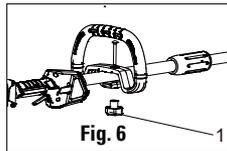

Fig. 6
The assist handle mounting bracket can be slid up or down, rotated from side to side or forward or backward to place the assist handle in the most comfortable position. Turn locking knob (1) (Fig.6) before adjusting the assist handle position and retighten it to lock the assist handle in the new position.